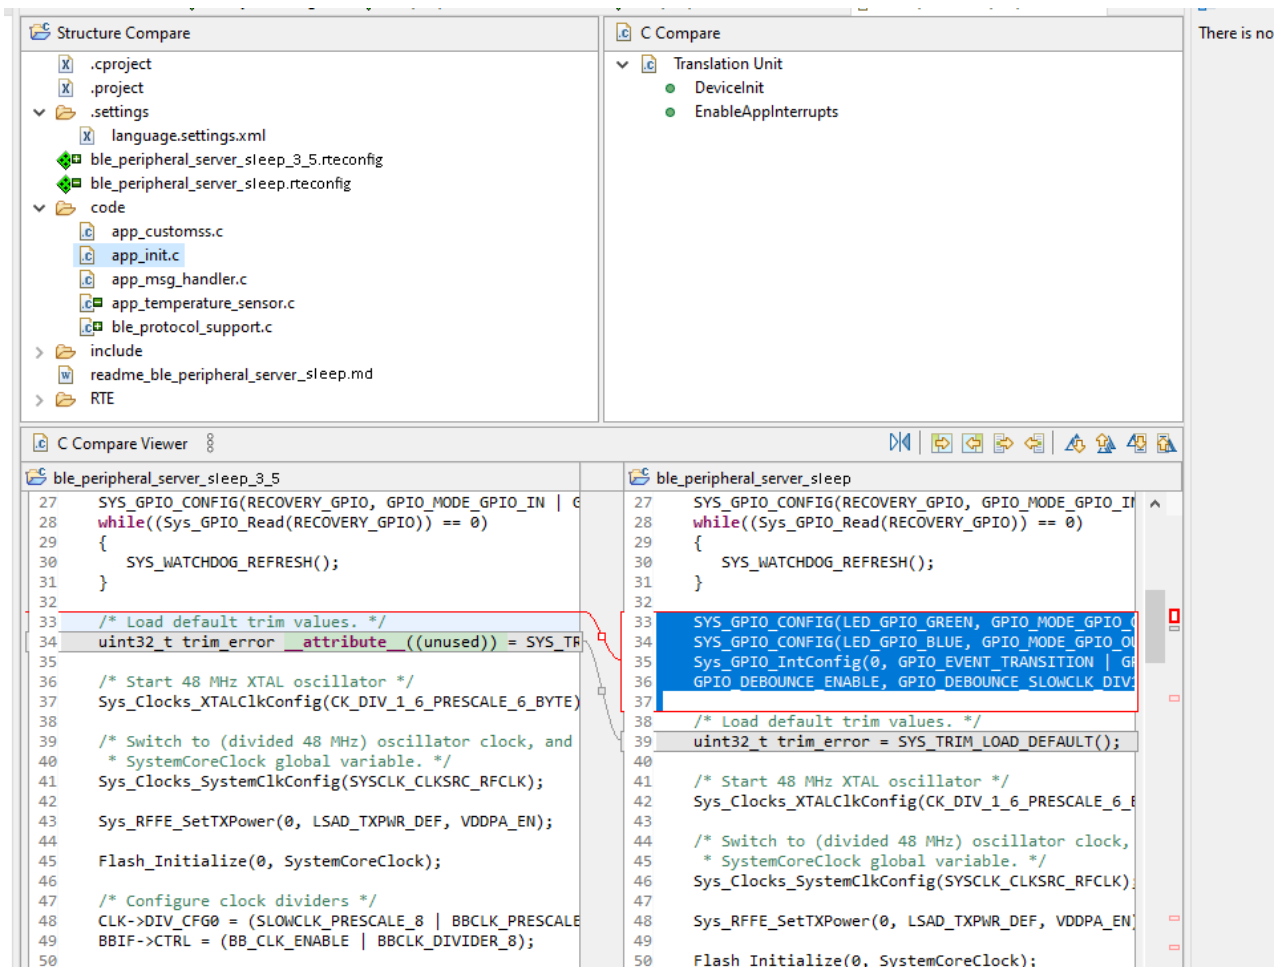

Figure 20. Changes Shown Between Application Versions
7. The output shows all the files and the changes within the files, as seen in the figure "Changes Shown Between Application Versions" (Figure 20).